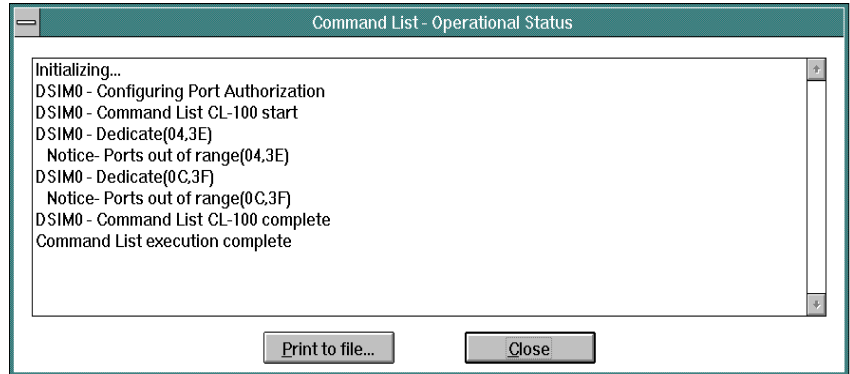

Figure 80. Command List - Operational Status Dialog Box
Because command list operations are applied to the active matrix for each selected Director, an operator must have authorization to change ports for the Directors or the operations are not applied. If an error occurs (during matrix activation), command list execution terminates for the current Director, an error appears in the *Command List - Operational Status* dialog box (Figure 80 on page 95), and the process continues to the next selected Director.
- The command list executes and the *Command List - Operational Status* dialog box appears (Figure 80). Port attribute changes resulting from application of the command list definition appear at the *Active Matrix* window (if the *Activate after update* check box is enabled), and an entry indicating command list execution is added to the *Console Audit* log.